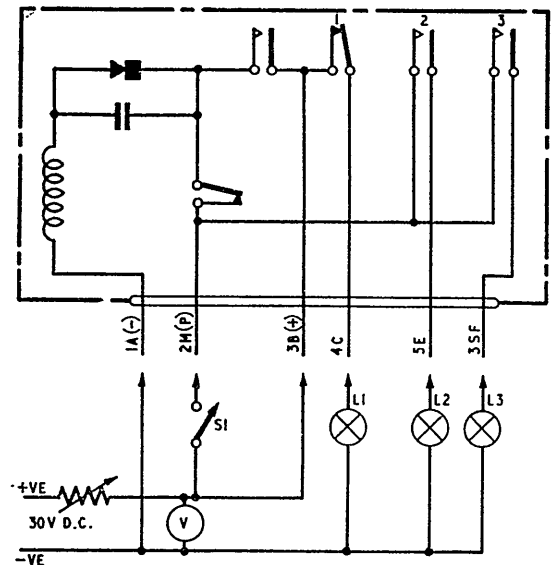

Fig. 1. Switch, Type D8414, circuit diagram and test circuit
1. This time delay switch has three pairs of circuit contacts, the circuit diagram (fig. 1) shows the switch internal wiring and the associated test circuit. The total motor run and circuit contact timing is detailed in para. 3.